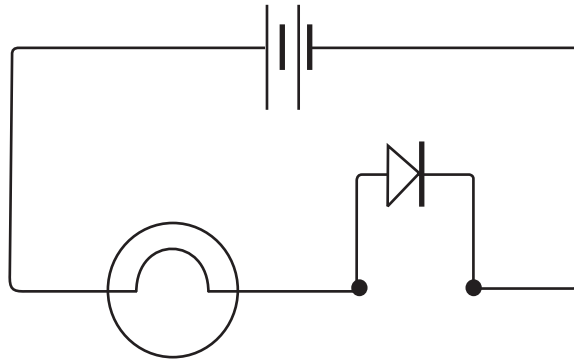

Figure 11-4
3. Now put your universal clips in to a circuit as shown in figure 11-4.